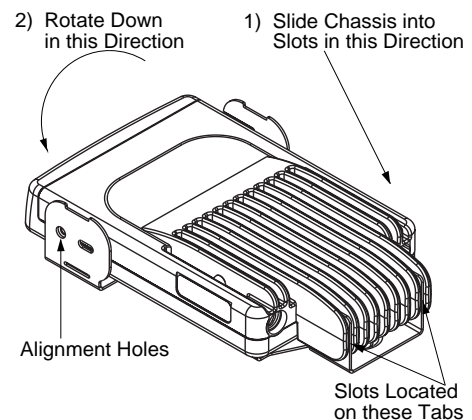

Figure 15 High Power Radio Assembled into Mounting Tray
5. Slide fins into rear slots of the mounting tray making sure that the plastic cover faces the tray, and push the radio in place (See Figure 15). Ensure that holes in chassis are aligned to holes in mounting tray. Secure the radio with 1/4" - 28x10 mm wing screws provided. Hand tighten screws ONLY. (Over-tightening with a tool will cause damage to both radio and mounting tray).